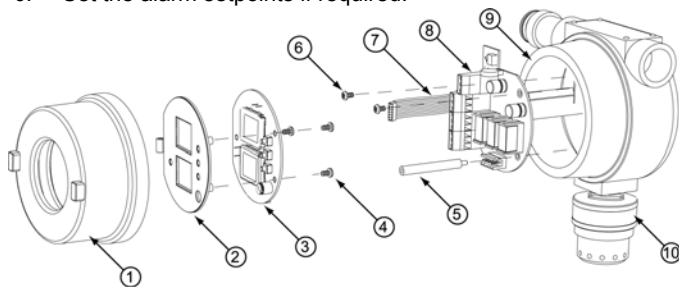

Figure 8. Assembly Drawing
3. Replace the component, ensuring all wiring connections are complete and reassemble as shown in Figure 8. Refer to Installation